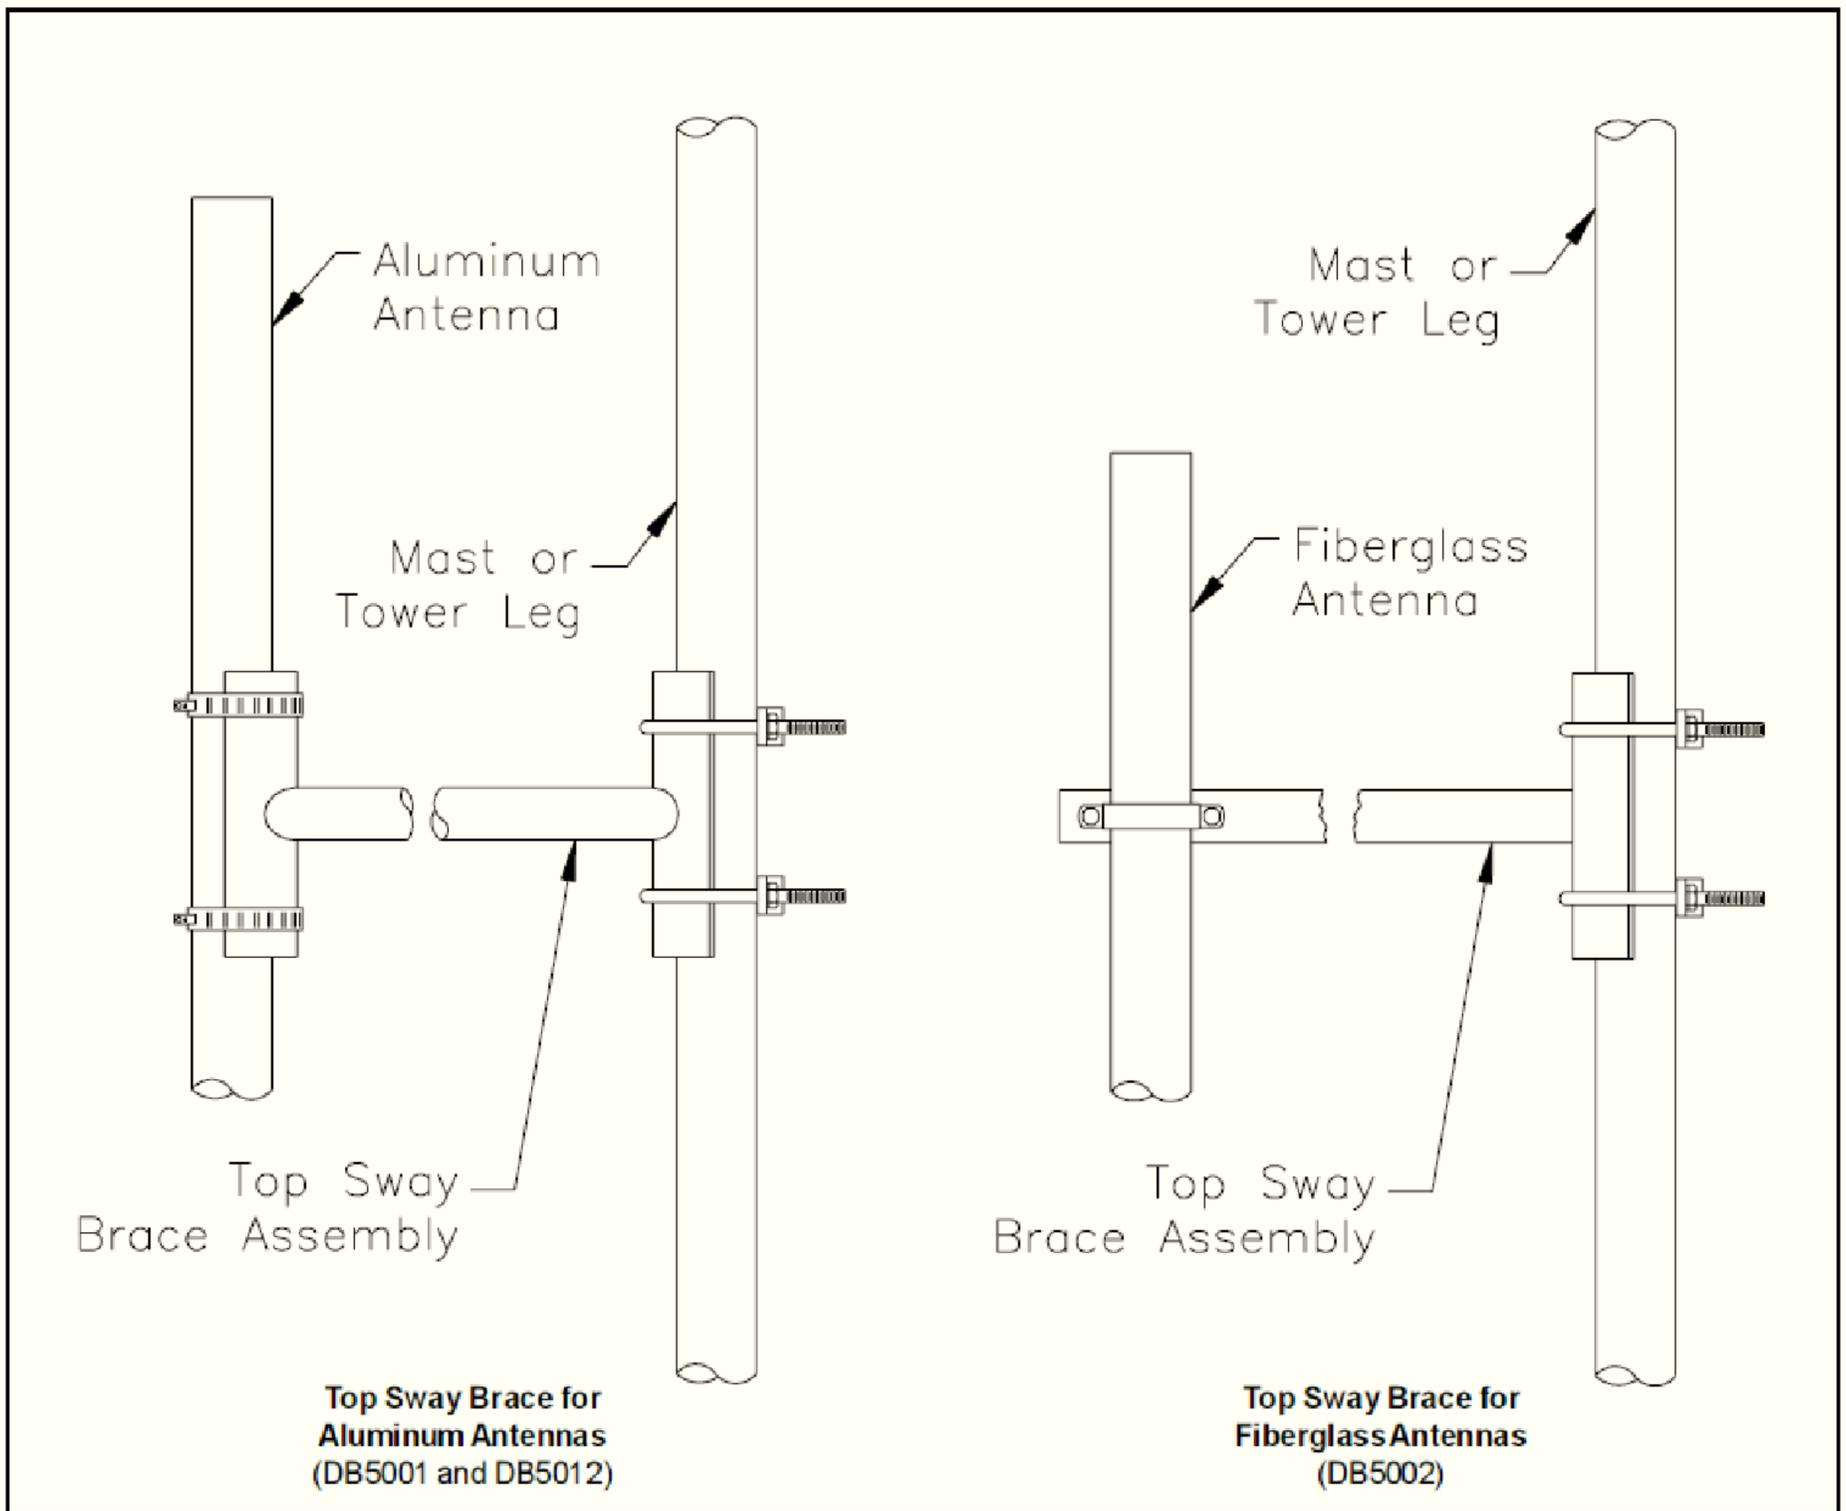

Figure 2. Installing the Top Sway Brace.
4. After the antenna is securely fastened to the bottom mounting bracket, attach the top sway brace to the mast or tower leg (Figure 2). The sway brace should be located approximately 6 inches (15 cm) from the top of the antenna.
5. Using the clamps supplied with the side mount kit, secure the top of the antenna to the sway brace (Figure2).